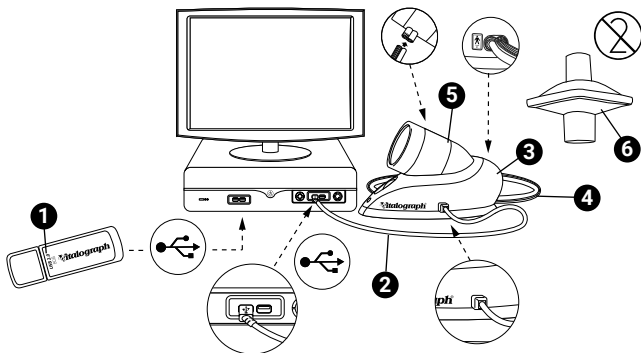

Figure 1 Main components of Pneumotrac
10. Ensure that the ribbed side of the tubing is connected to the ribbed half of the connector. If tubing is connected the wrong way, spirometry results may appear to be inverted (See Figure 1)